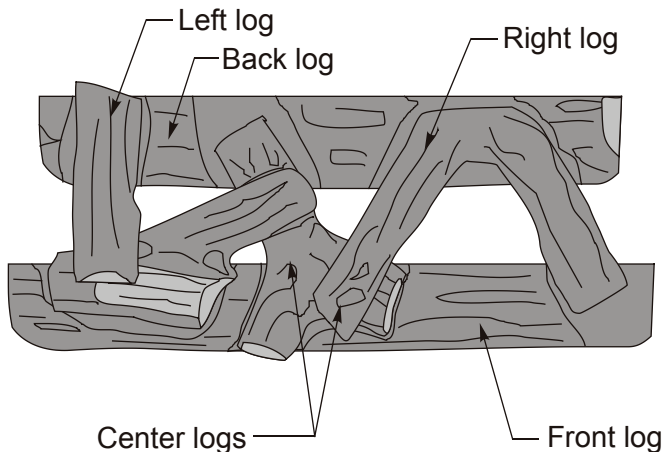

Figure 12b. Proper placement (top view).
5. Place the top logs in position as shown in **figures 12b** and **12c**.